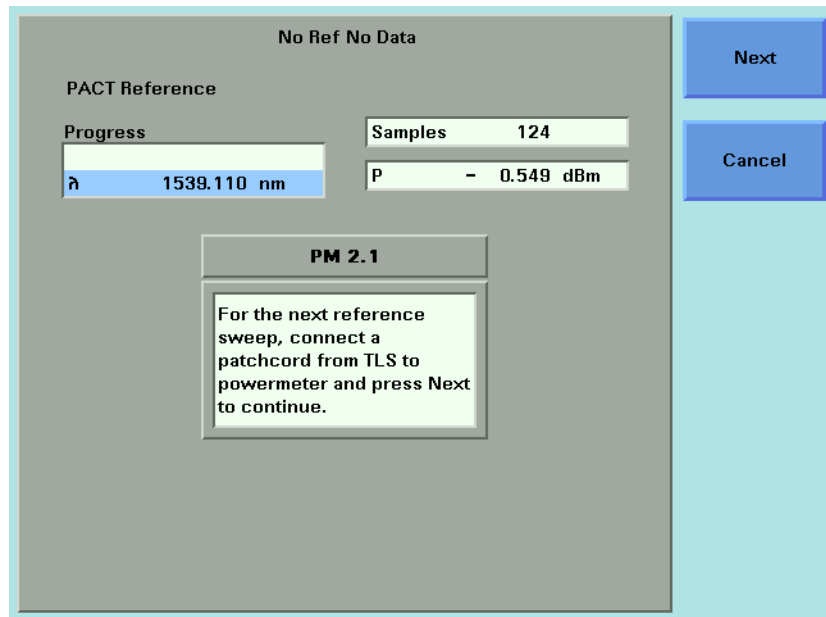

Figure 180 Connection Prompt Screen
- 19 Press [New Ref]. A box similar to the box in Figure 180 on page -293 appears prompting you to connect a fiber to the first Power Meter channel.
If there is another Power Meter channel to reference, you will be prompted to perform this reference measurement from the user interface by a prompt box similar to the box in Figure 180 on page -293. Restart this procedure at step 20.